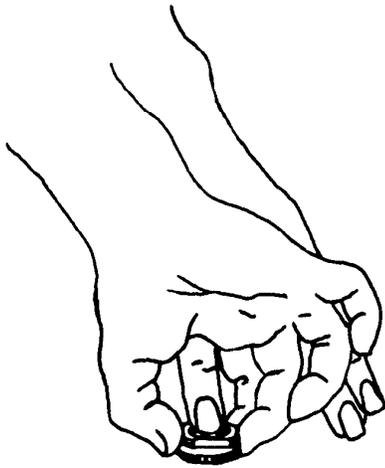
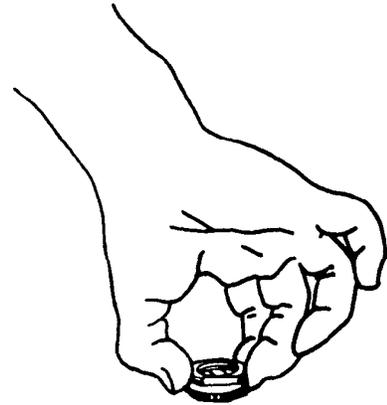

Figure 5.
Figure 6.
Step 8. While holding the mounting base down, (see Figure 5.) thread the locking nut onto it. When the nut is well onto the mounting base, pull up on the entire assembly as shown in Figure 6. Make sure the mounting base is centered in the hole, and seated properly with both shoulders inside the mounting hole. Use a 1/16-inch open-end wrench to tighten the locking nut until it bottoms firmly against the roof top.